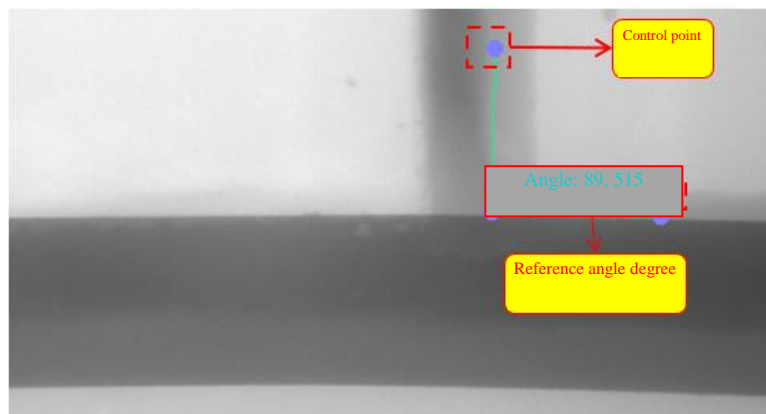

Fig. V-45 Angle Measurement Mark
1) Click the toolbar icon  or "Tool (T)" ->"Measurement" ->"Angle" in the menu bar to enable angle measurement.
2) Move the mouse to the position to be measured, click the mouse for 3 times randomly near this position, and 3 control points appear in sequence, finally, when clicking for the 3rd time, the angle mark is automatically made, meanwhile, the angle degree is displayed beside the mark (see Fig. V-45. Note: the 3 points clicked shall not be at the same position).